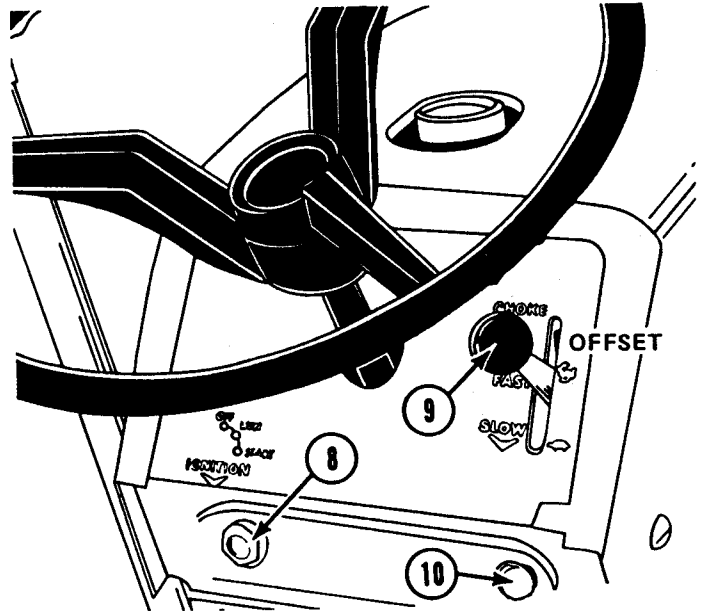

Figure 6
8 IGNITION AND STARTER SWITCH – Figure 6
9 THROTTLE-CHOKE CONTROL LEVER – Figure 6
10 LIGHT SWITCH (Optional)–(Figure 6)
5. Raise throttle choke control lever (9) Figure 6, past the offset in the slot to the "choke" position.
6. Turn ignition key (8) shown in Figure 6 clockwise all the way. Release key as soon as the engine starts and gradually lower the throttle-choke control lever past the offset until the engine runs at ½ throttle.